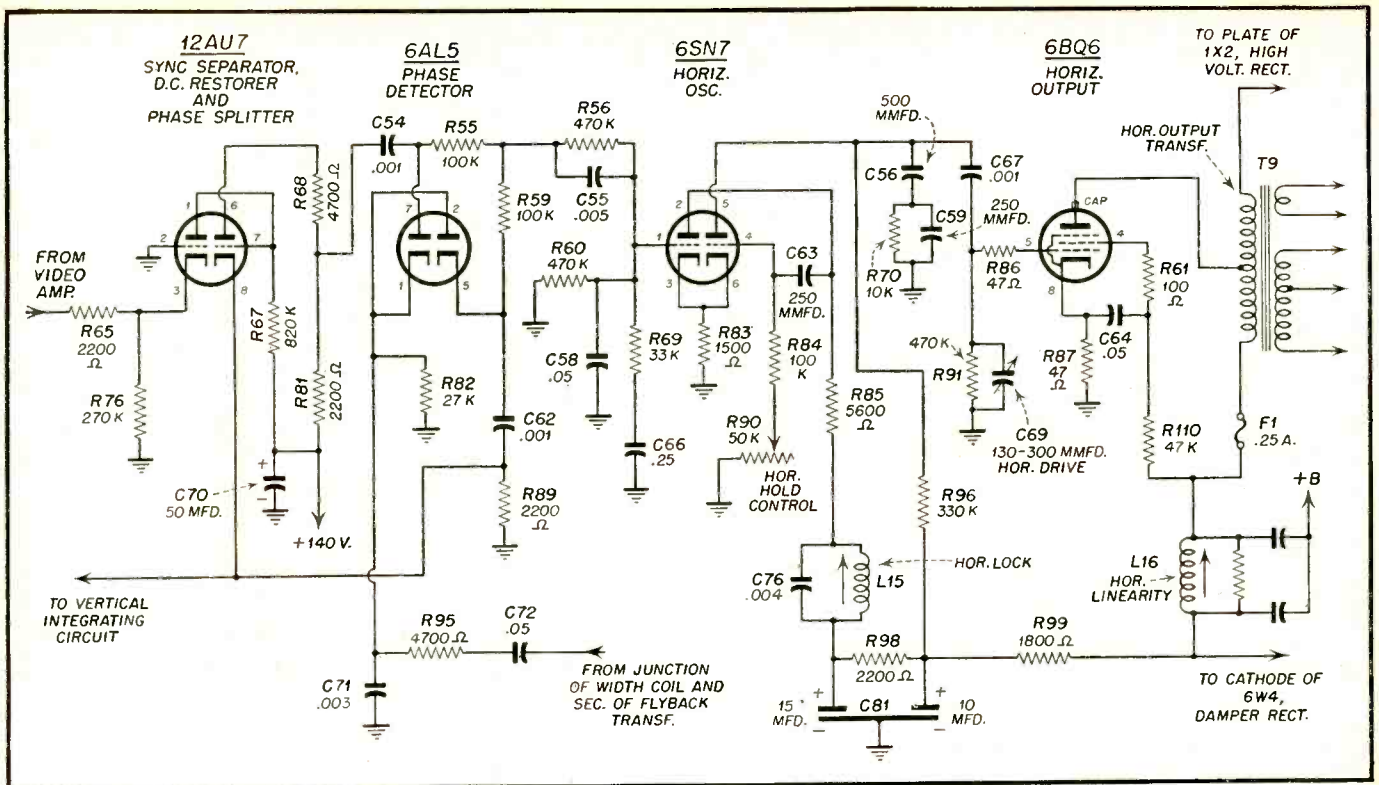

Fig. 1. Sentinel Model 412, phase detector and horizontal sweep circuits.
3. The defect appears to be either in the horizontal a-f-c or horizontal sweep circuits. The following tubes are changed, *Fig. 1*: 12AU7, sync separator and phase splitter; 6AL5, phase detector; 6SN7, horizontal oscillator; 6BQ6, horizontal output; and 6W4, damper. No improvement is noted.